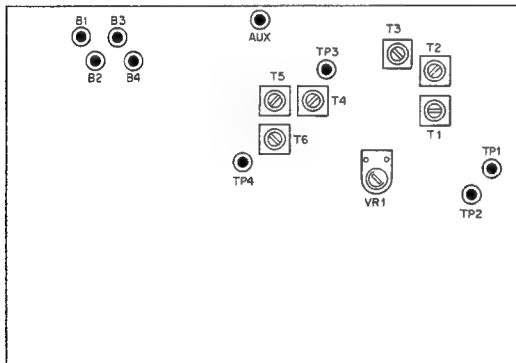

Fig. 41 PD unit
- 1) Connect the detector to TP1 (or TP2) in PD unit (X50-1340-00) and connect its output to the oscilloscope (refer to Fig. 41).
Apply a signal of 8.83 MHz within 106 to 108 dB from SSG between connector terminals CIB and GND and adjust VR1 until the output of RF VTVM connected to TP1 (or TP2) becomes minimum dip (refer to Fig. 41).